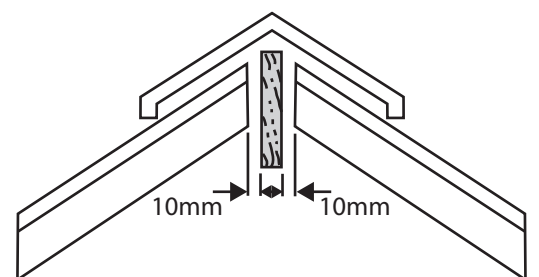

Figure 4
6. If a ridge tree or ridge batten is present, trim the Dry Verge using a fine-toothed hacksaw to leave a 10mm gap either side (as shown in Figure 4).